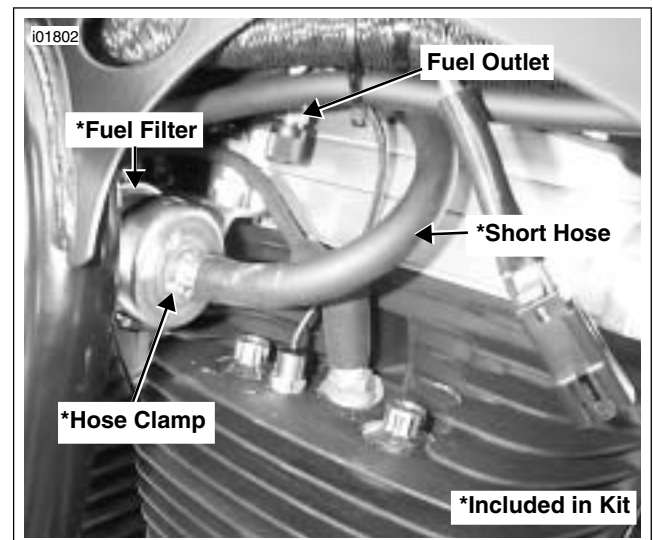

Figure 5. Fuel Tank to Filter
20. See Figure 5. Attach short section of fuel line provided in kit to fuel tank fuel outlet fitting with hose clamp. Tighten clamp.